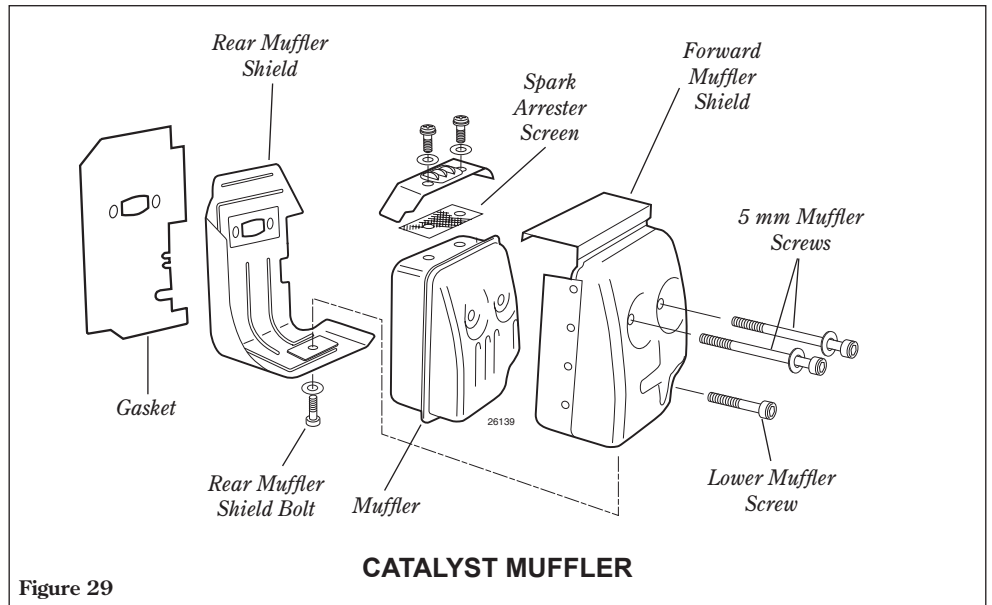

Figure 29
2. Remove the two 5 mm muffler screws. Remove the lower muffler screw, then lift the muffler assembly from the engine. See Figure 29.
3. Remove the rear muffler shield bolt. While noting the orientation of parts, separate the muffler shields. See Figure 29.